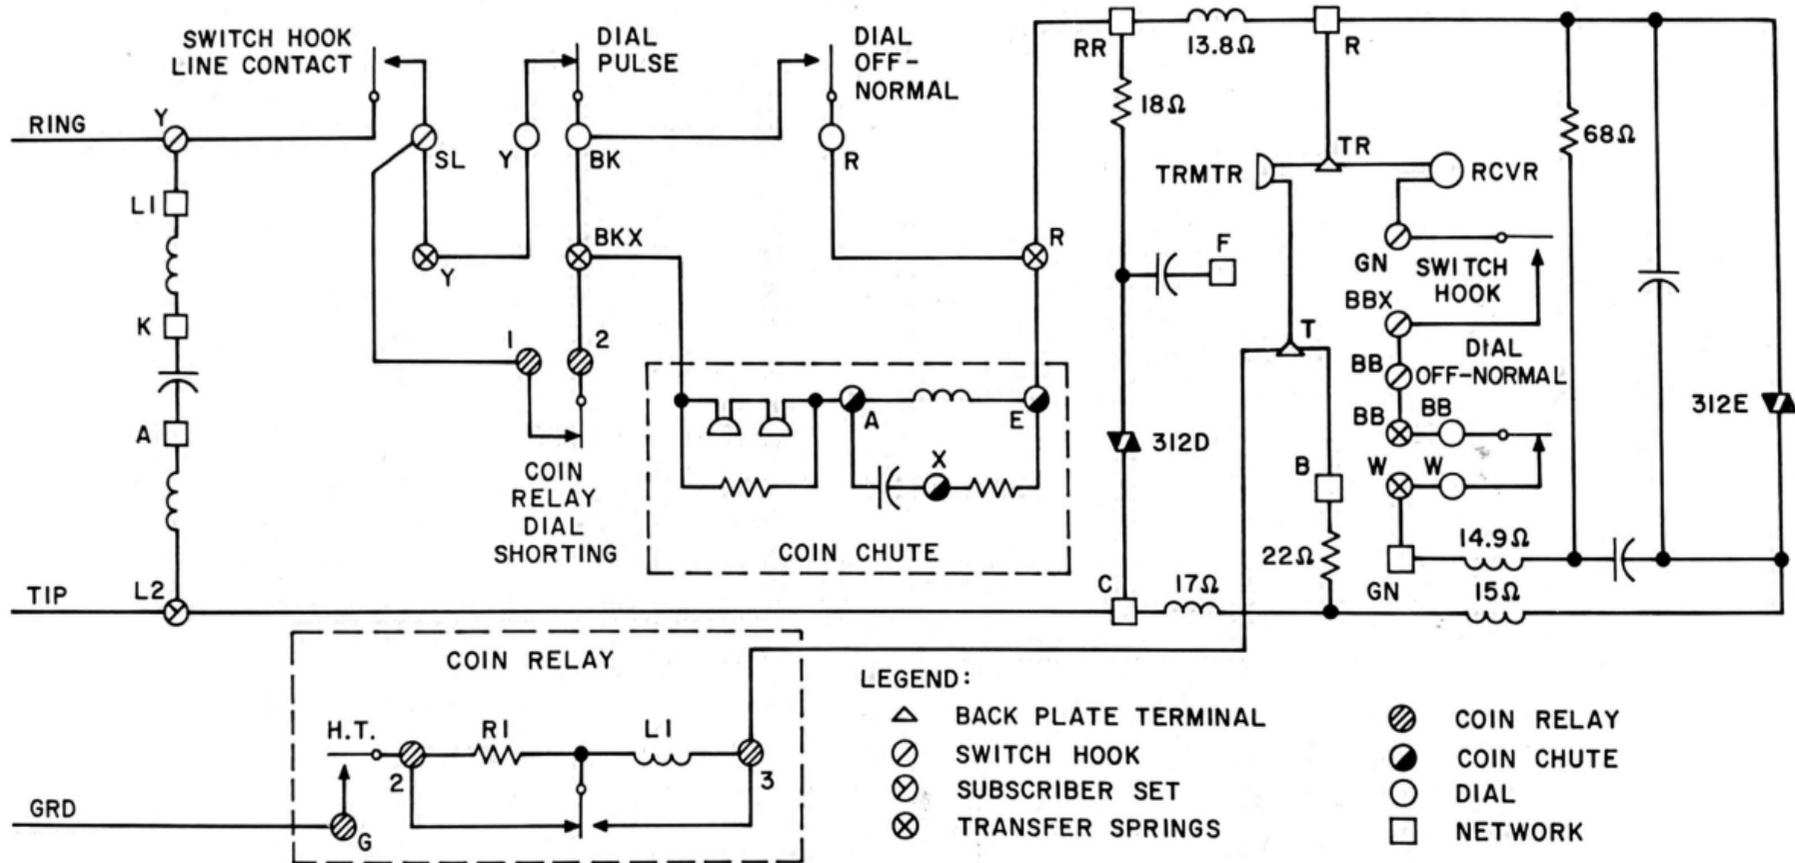

Fig. 7 - 234G Coin Collector With 685A Subscriber Set
4.01 As an aid in clearing electrical troubles, Fig. 7 through 11 provide functional schematics for coin collectors/telephones as follows:
- Fig. 7 — 234G Coin Collector With 685A Subscriber Set